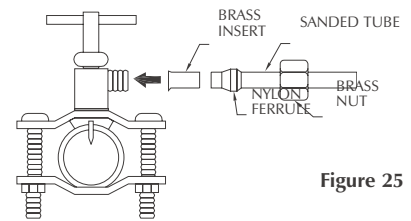

Figure 25
3. Slide the brass compression nut and nylon ferrule onto the sanded plastic tube and fit the brass insert in the end of the tubing. (Fig. 25)